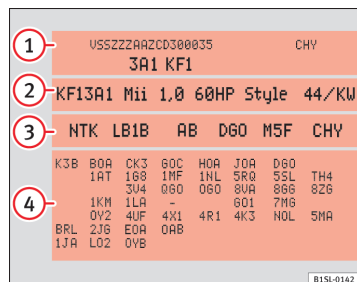

Fig. 163 TO: Vehicle data label: in the example, engine with code CBFA
The vehicle data label ⇒ Fig. 163 is at the front of the spare wheel well. It contains the following data:
- ① Vehicle identification number (chassis number)
- ② Vehicle type, engine power, gearbox type
- ③ Engine and gearbox code, paint number, interior equipment. In the example, the engine has the code "CBFA" ⇒ Fig. 163.
- ④ Optional extras, PR numbers